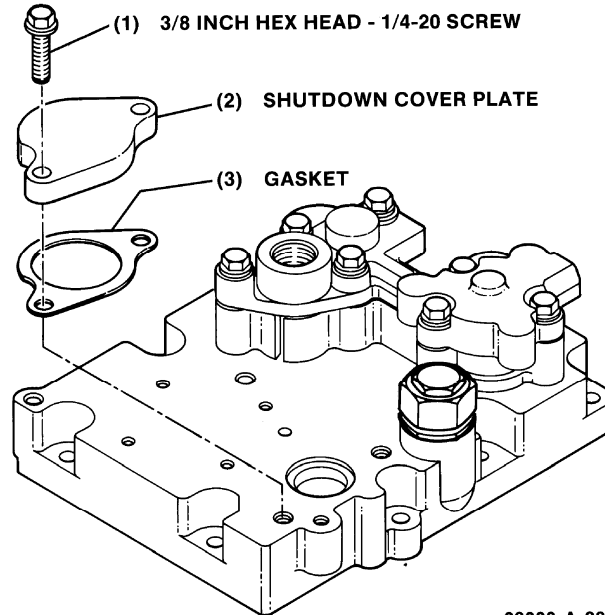

Figure 2-1. Governor Cover
2. Remove two 3/8 inch hex head 1/4-20 screws (1), shutdown cover plate (2), and gasket (3) from the governor cover (Figure 2-1). Remove the shutdown device(s) if so equipped.
1. Remove two screws (1), shutdown cover plate (2), and cover plate gasket (3), from the governor cover (Figure 2-1).